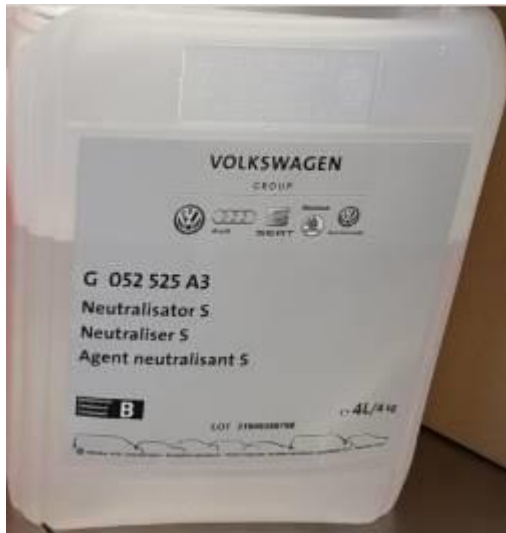

Figure 10. Neutralizer 'S'.
11. Add 3.0 liters of neutralizer 'S' and the balance of the fill with coolant. Perform bleeding procedure (Figure 10). Run the engine for 15 minutes with this mixture with the cabin heating on full hot and HI fan. If equipped, also set the rear HVAC unit to full hot and HI fan.